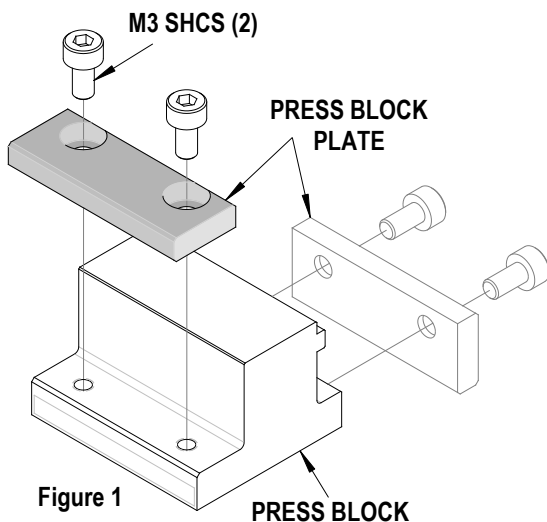

Figure 1
- a. Remove the (2) M3 SHCS from the press block plate.
- c. Re-install the (2) M3 SHCS. See Figure 1.